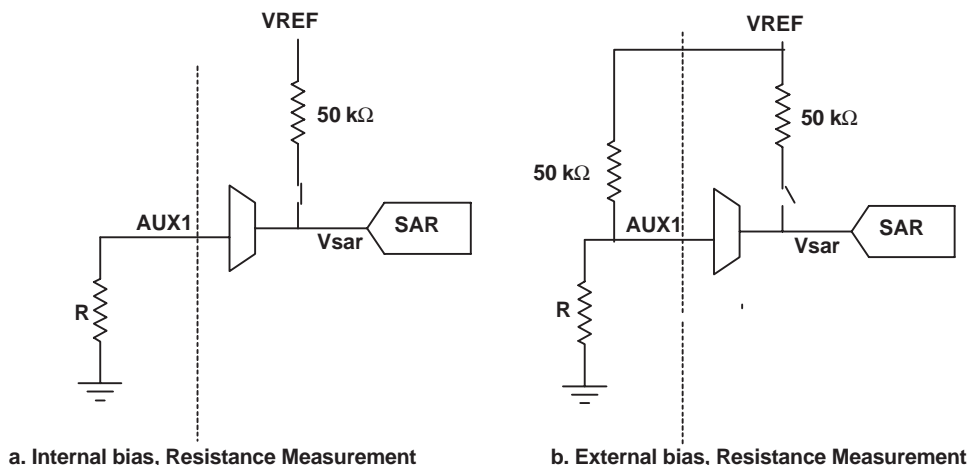

Figure 30. Connection Diagram for Resistance Measurement
The AIC28 provides feature to measure resistance using auxiliary inputs. It has two modes of operation: (1) External bias resistance measurement (2) Internal bias resistance measurement. Internal bias resistance measurement mode does not need an external bias resistance of 50 kΩ, but provides less accuracy because of on chip resistance variation, which is typically ±20%. Figure 30 shows connection diagram for resistance measurement mode on AUX1.